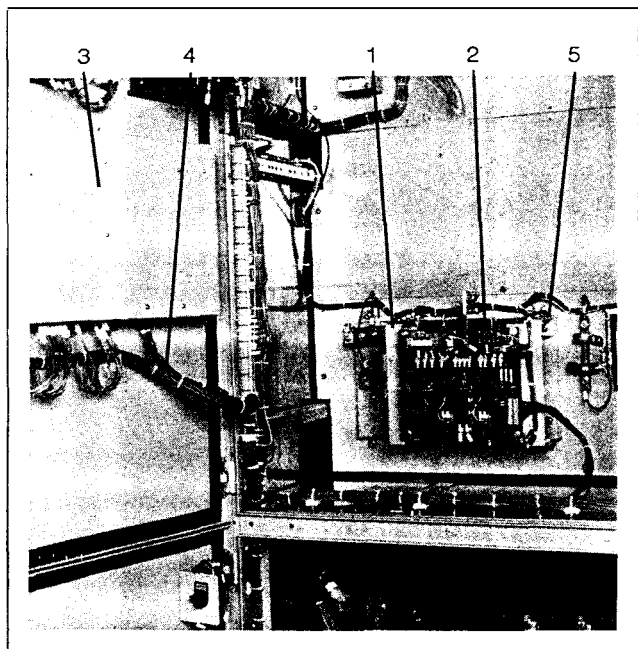

Figure 4. Cubicle and Door Mounting of C/P-M and P-M
The Siemens SPM 85000 solid state synchronizing and protection module should be mounted in a clean, dry, heated, and well ventilated location which is readily accessible for inspection and maintenance. A typical mounting arrangement for this equipment in a Siemens Series 81000™ motor controller is shown in **Figure 4**.
Certain characteristics of the mounting arrangement shown in **Figure 4** must be incorporated into all installations of the SPM 85000 solid state synchronizing and protection module. Referring to **Figure 4**, the power module (1) must mount with the cooling fins on the SCR heat sink (2) aligned vertically as shown. This is necessary to prevent overheating of the SCR's. The power module and the control and protection module (3) must be located in sufficient proximity with each other to ensure that their interconnecting wires (4) do not exceed 6 feet in length. Otherwise, the field application SCR's and control circuitry may not function properly.